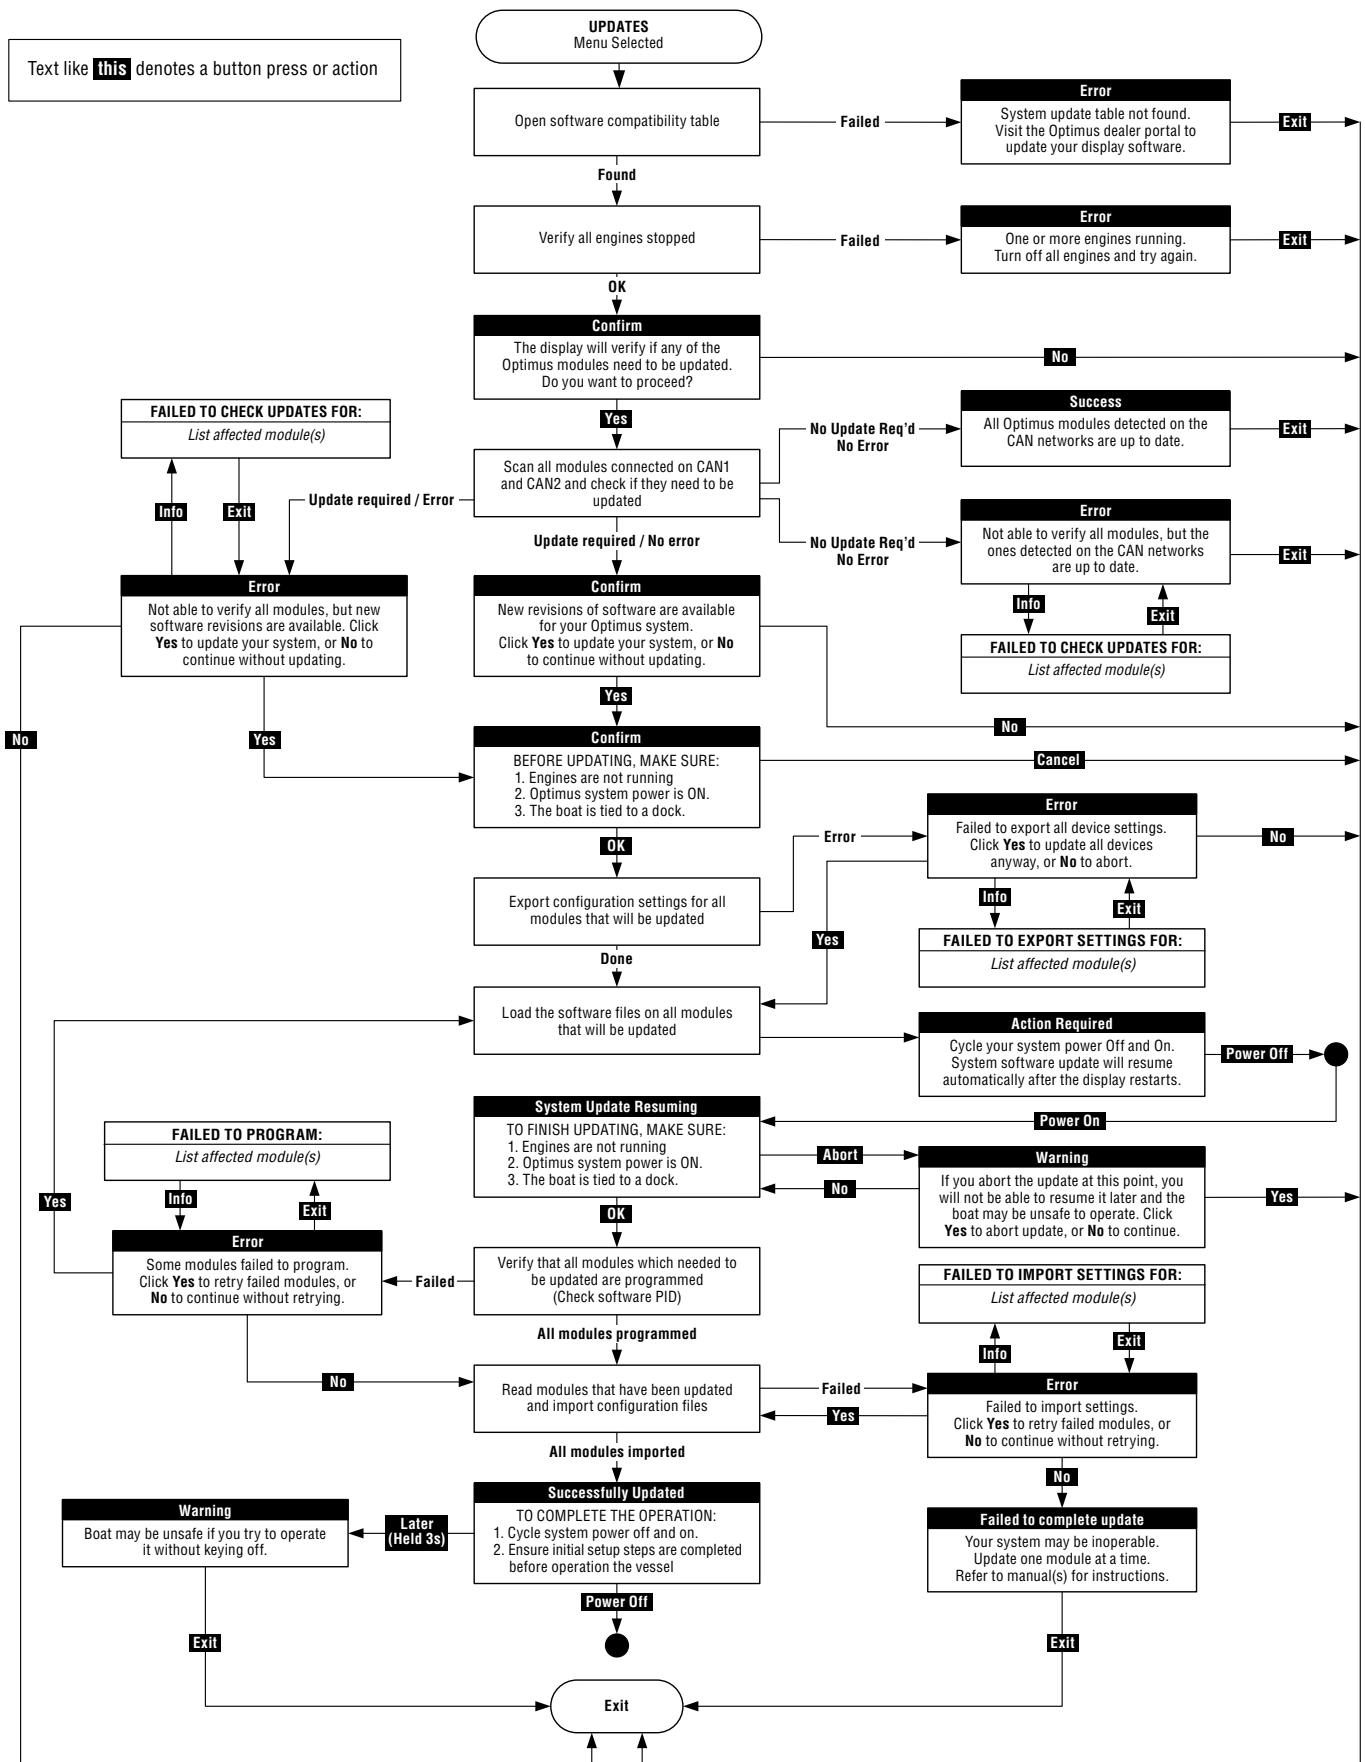

Figure E-3 Software update process using CANtrak.
1. Navigate to **Dealer Menu > Initial Setup > 2) Updates** and press **>**. The system will check the revision level of all installed components and prompt if an update is required. Follow the instructions on the display to complete the update. See figure E-3 for a flowchart of the update process.